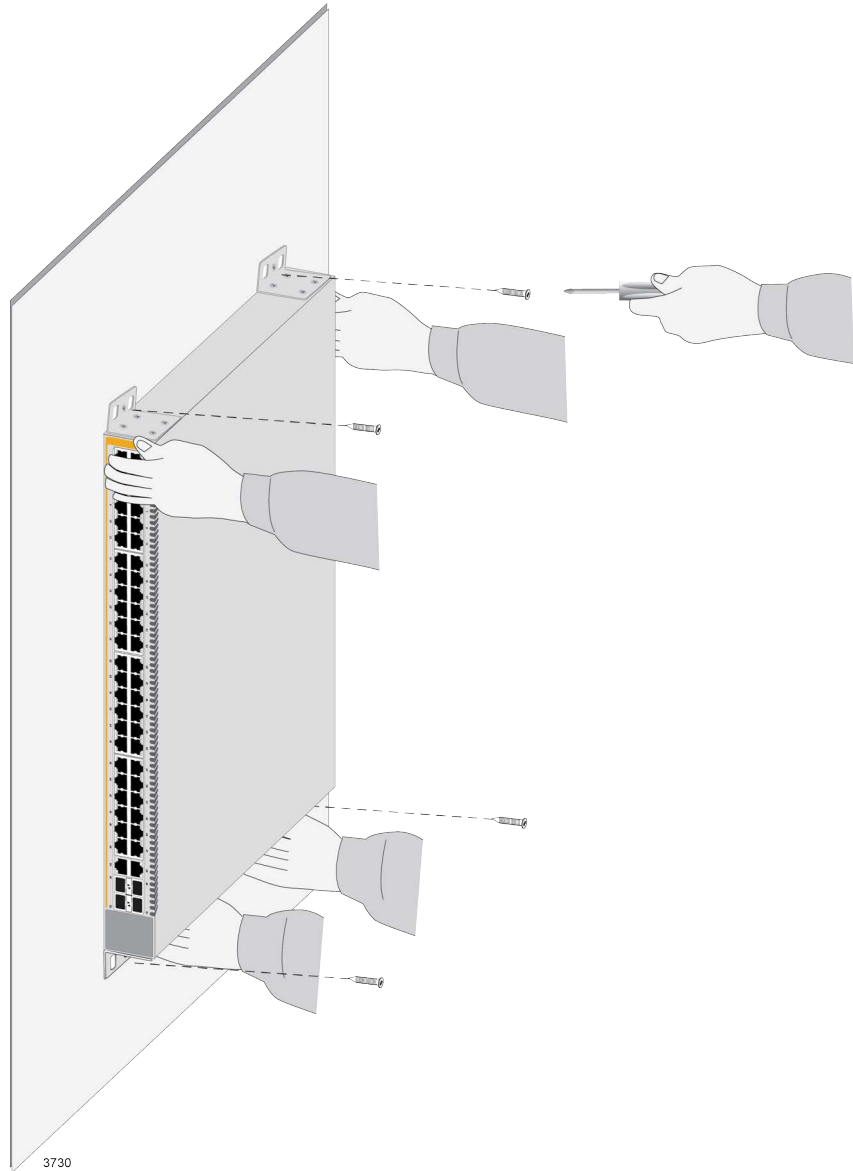

Figure 54. Installing the Switch on a Concrete Wall
7. Have two people hold the switch at the selected wall location while you secure it with the four provided screws. Refer to Figure 54.